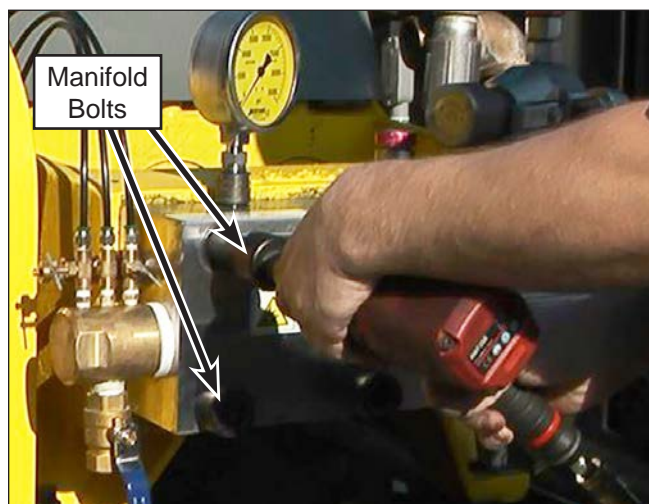
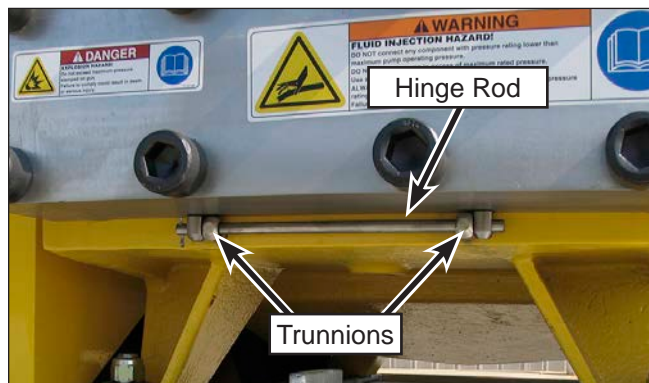

Figure 64: Removing the Manifold Bolts.
Figure 65: Hinge Rod and Trunnions.
5. Remove the manifold bolts (Figure 64). Ensure the hinge rod (Figure 65) is installed before removing the bolts.